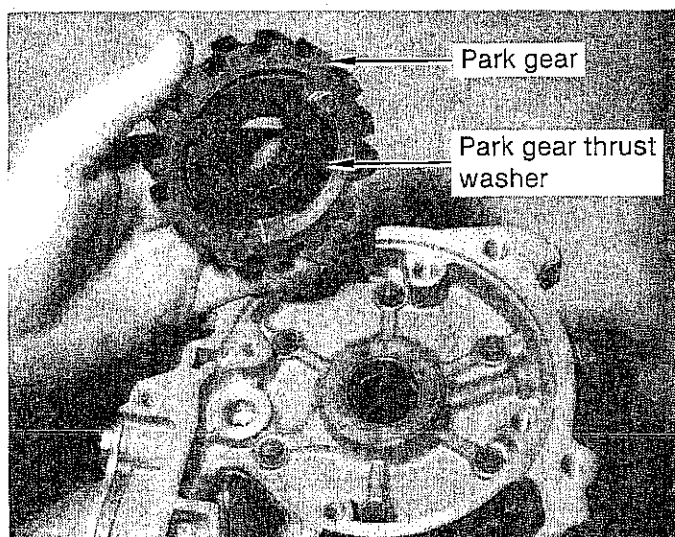

FIGURE 54
STEP 6. Turn case over, pump face down. Lubricate and install the park gear thrust washer and park gear. (See Fig. 54) Install the park pawl and shaft so the pawl points toward the park gear. (See Fig. 23) Install the park pawl spring. The spring hooks inside the edge of the case.